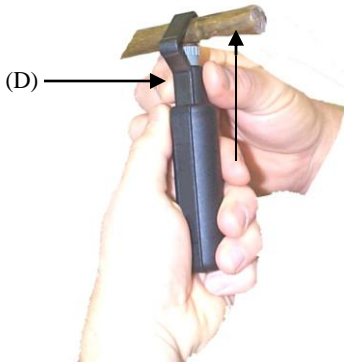

Fig. 5
**Step 5.** (Fig5) For **Spiral Cut**, pull up on the collar (D) of the tool to set tool blade at an angle for spiral cut. In this position (Fig 6), the tool will have a small space (E) exposed between the collar and the body indicating the tool is set for spiral cutting.